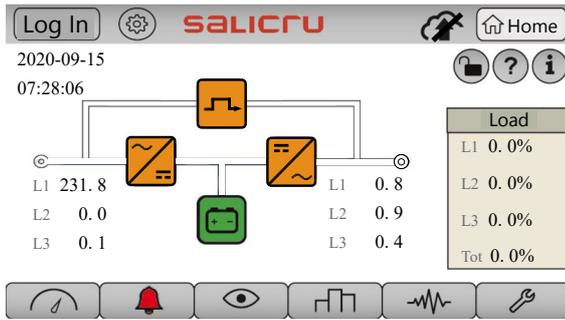

Fig. 64. Main screen with EPO emergency stop activated. No power flow represented, there is no output voltage.
- f. Critical loads are still not supplied, but the UPS is already in stand-by or initial state, without critical alarms. Check that "Emergency Power Off" alarm has disappeared, and the UPS Status is "UPS ON / Stand-By". The unit synoptic still corresponds to Fig. 64 (unit stopped, no active energy Flow).